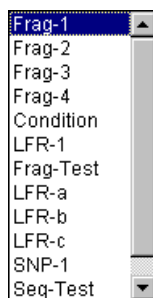

Figure 2.16 Method Selection Drop-Down List
2. Click the down-arrow to open the method selection list (Figure 2.16) and select the method.